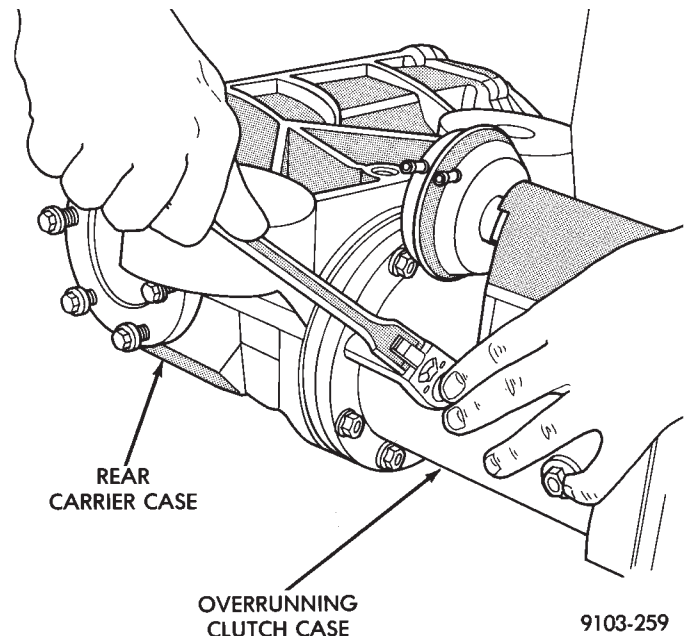

Fig. 6 OVERRUNNING CLUTCH CASE to Rear Carrier Case Bolts
- (2) Drain oil from overrunning clutch case.
- (3) Remove overrunning clutch case to rear carrier case bolts (Fig. 6).